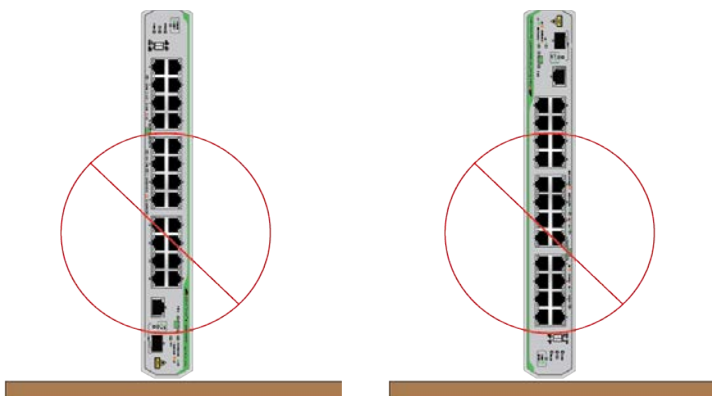

Figure 18. Incorrect Installations For GS910/18XST and GS910/26XST
- ❑ Installing the GS910/18XST or GS910/26XST switch upright as shown in Figure 18 is incorrect.